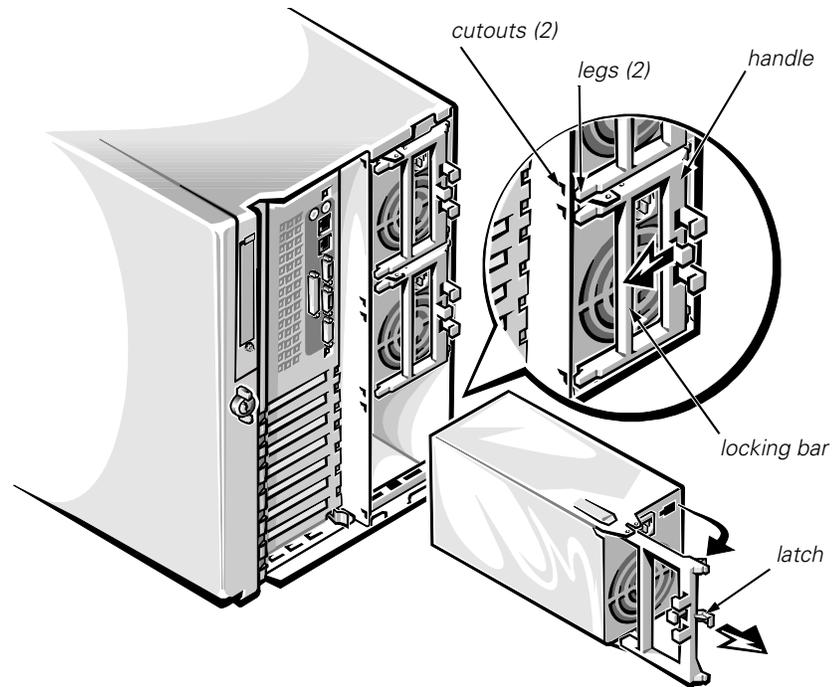

Figure 4-11. Power Supply Removal
- 2. Press the locking bar in the power supply handle to the left (or up if the system is in rack-mount position) until the latch disengages from the chassis (see Figure 4-11).**